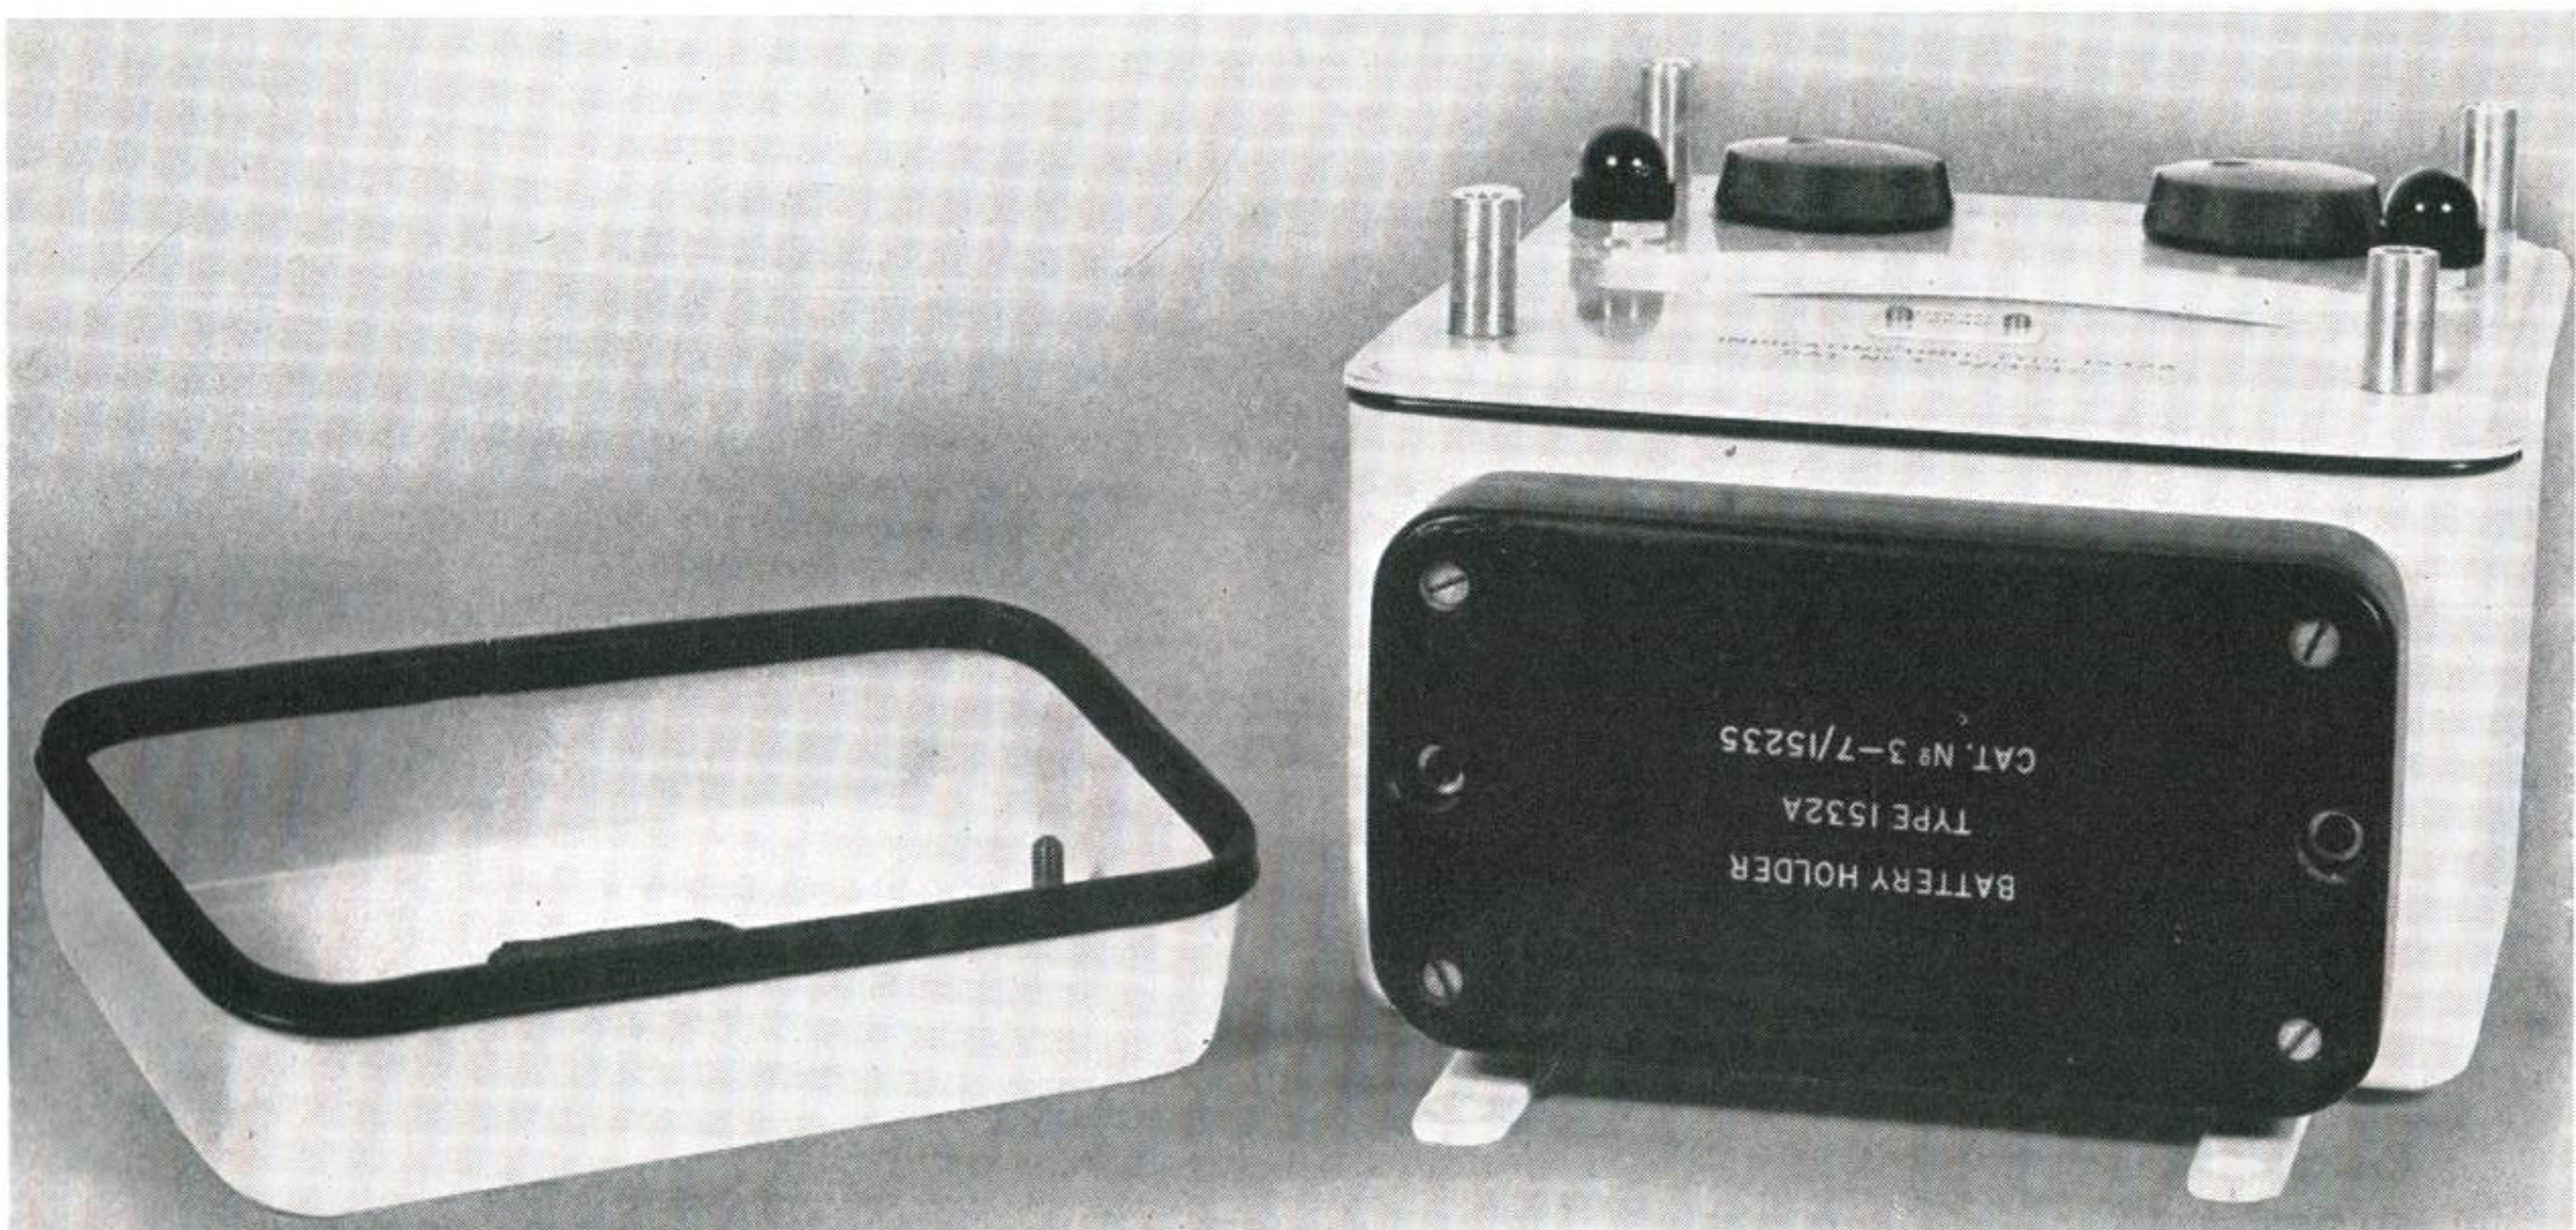

Fig. 8. The Battery Pack in position on the underside of the indicator unit. The lower fixing lugs can also be seen.
The batteries are contained in a moulded detachable pack which is plugged into the indicator unit (fig. 8). There are three batteries in the pack:
- (a) Unscrewing the two screws retaining the cover over the battery pack. This cover is located on the under face of the indicator unit on the opposite side to the cable connection. Care must be taken not to allow the pack to fall away from the indicator unit as the cover actually retains the pack (fig. 8).